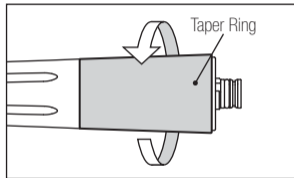

Fig. 13
- 1) Loosen and Remove the taper ring at the rear of the handpiece. (Fig. 13)